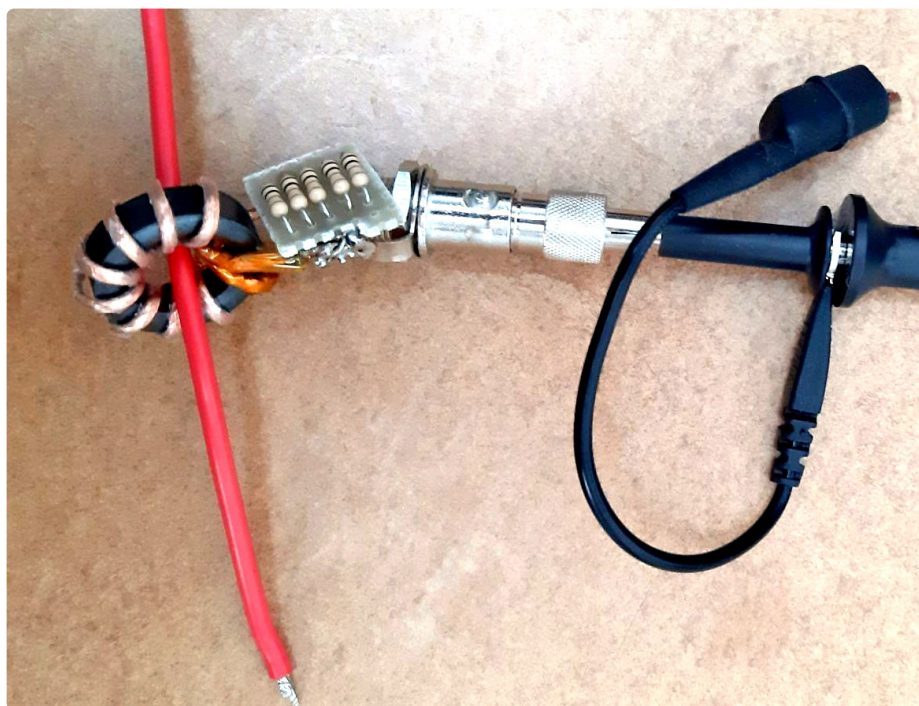

Figure 3: RF current probe in practical use.
**Figure 3** shows typical usage with a scope probe, using a BNC adapter for scopes. The device can also be used with a direct coaxial cable connection to the scope input, because  $1 \text{ V}_p$  is ideal for scope  $1\times$  operation: In this case, using a short cable is recommended to avoid reflections in the band of interest, because the coax will be mismatched on both sides. Even better, the coaxial cable can be terminated at its characteristic impedance on the scope side: Many modern scopes offer the ability to set the input impedance to  $50 \Omega$ , so this is particularly easy. In this specific case, one has to remember that the measurement will be slightly off-scaled, due to the parallel of